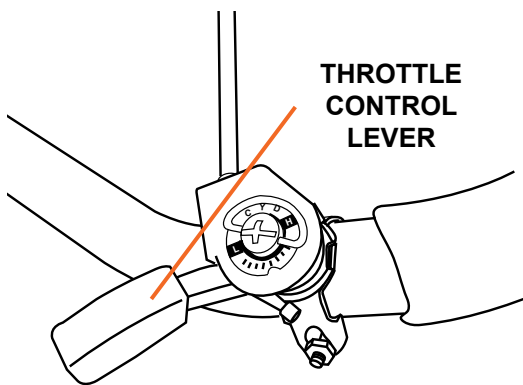

Figure 7
4. Move throttle control lever to low (see Figure 7).